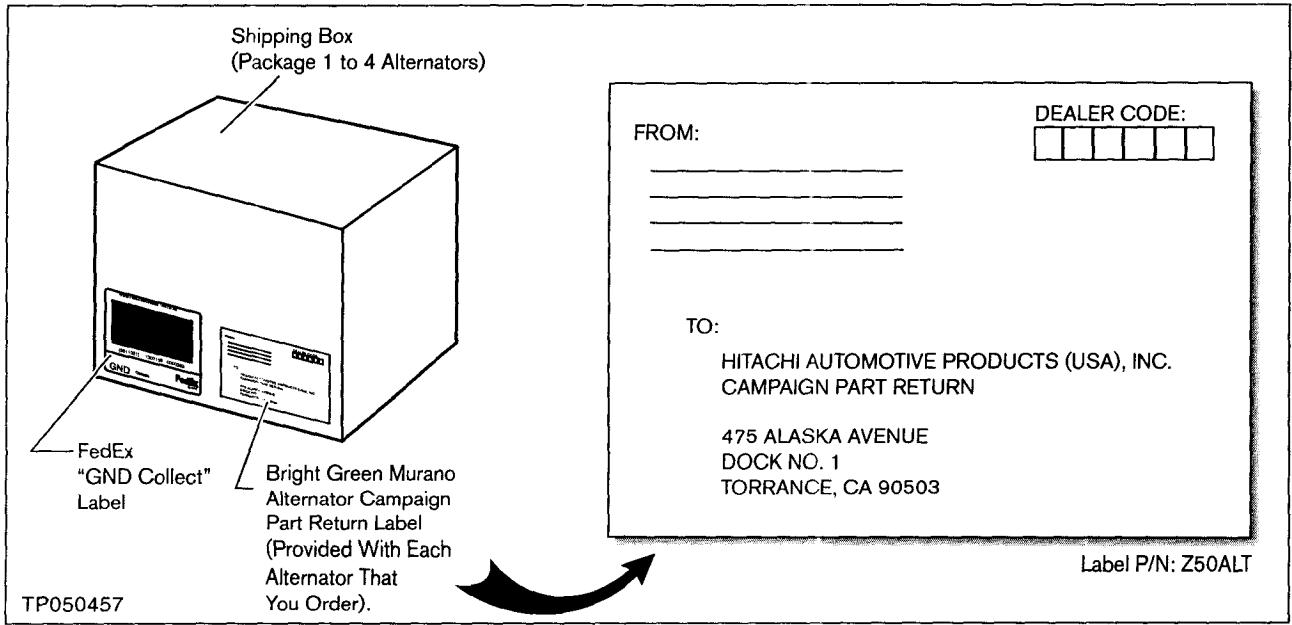

Figure 20
3. Print your dealer number on the bright green Murano Alternator Campaign Parts Return Label and attach it to the outside of the shipping box (see Figure 20 below).